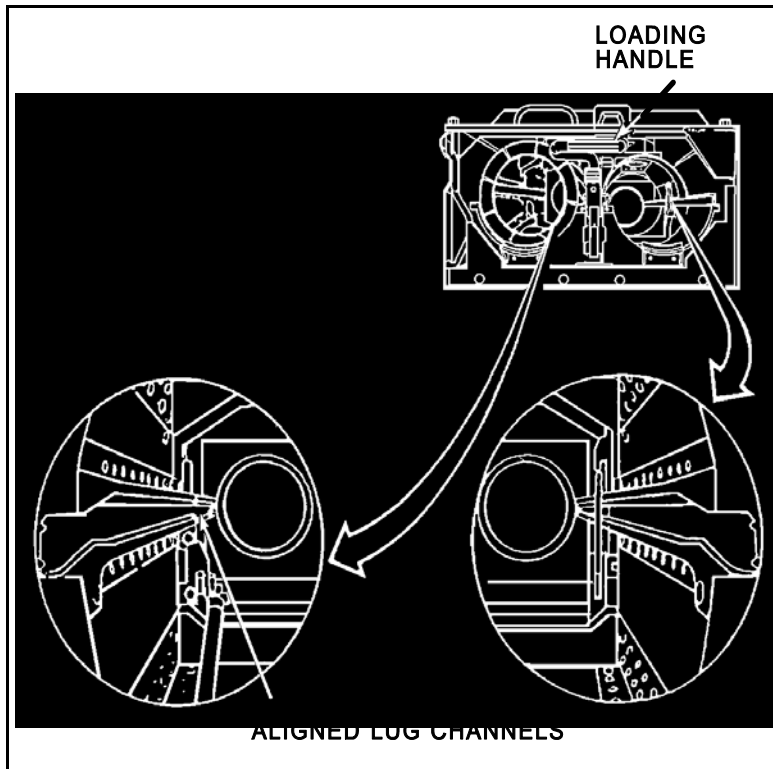

Figure 2. Loading handle.
3. Prepare the TOW launcher for loading (Figure 2).